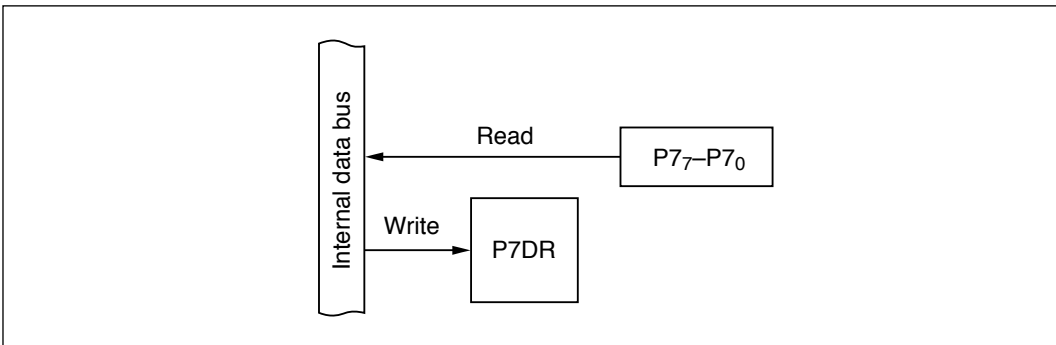

Figure 9-44 Input Port (Modes 1 to 7)
(1) Input Port (Modes 1 to 7): Figure 9-44 shows a block diagram illustrating the general-purpose input function. Table 9-34 indicates register read/write data. Values written in the port 7 data register (P7DR) have no effect on general-purpose input lines. When read, P7DR returns the value at the pin.